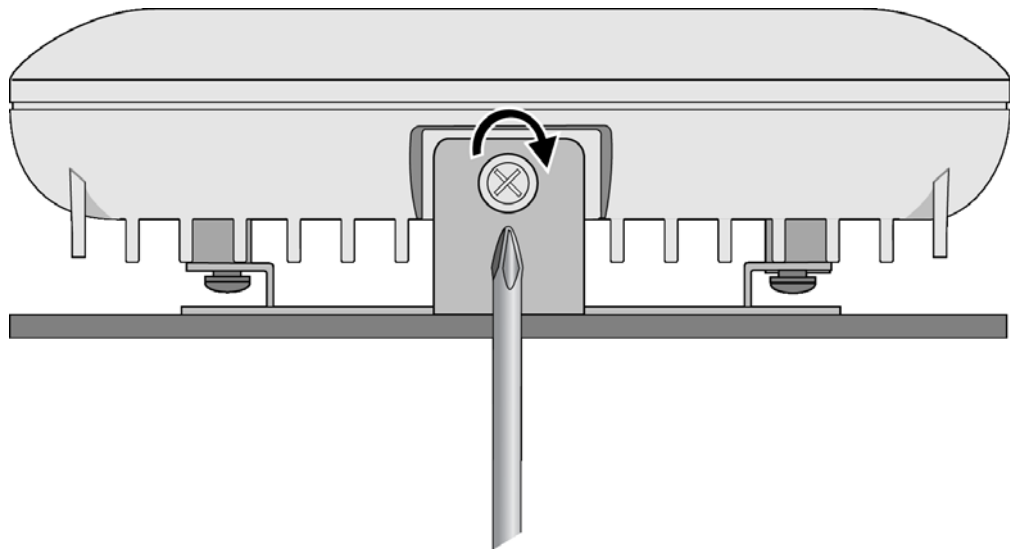

Figure 33. Tightening the Wall Mounting Bracket Thumbscrew
3. Tighten the thumbscrew to secure the wireless access point to the wall mounting bracket. Refer to Figure 33.